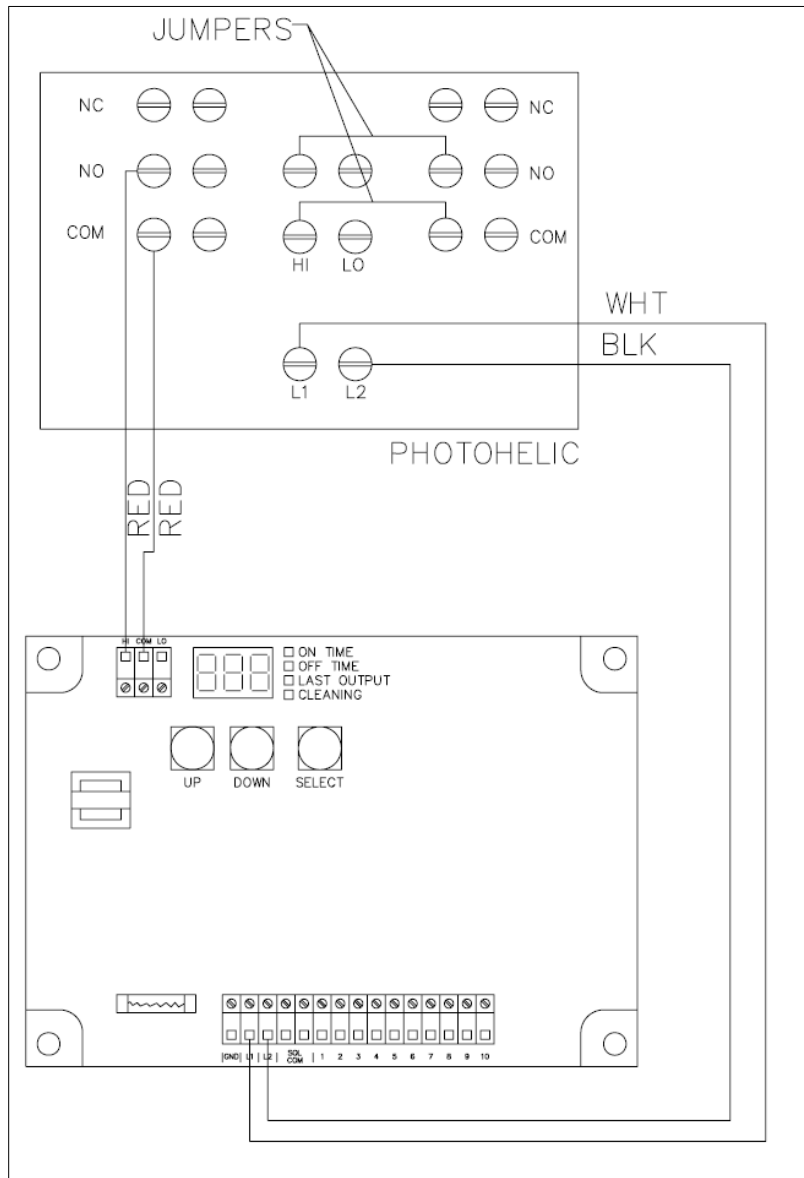

FIG. 14
*NOTE: Units supplied with Photohelic option see FIG. 14 (Page 18). Refer to page 6 for installation information.